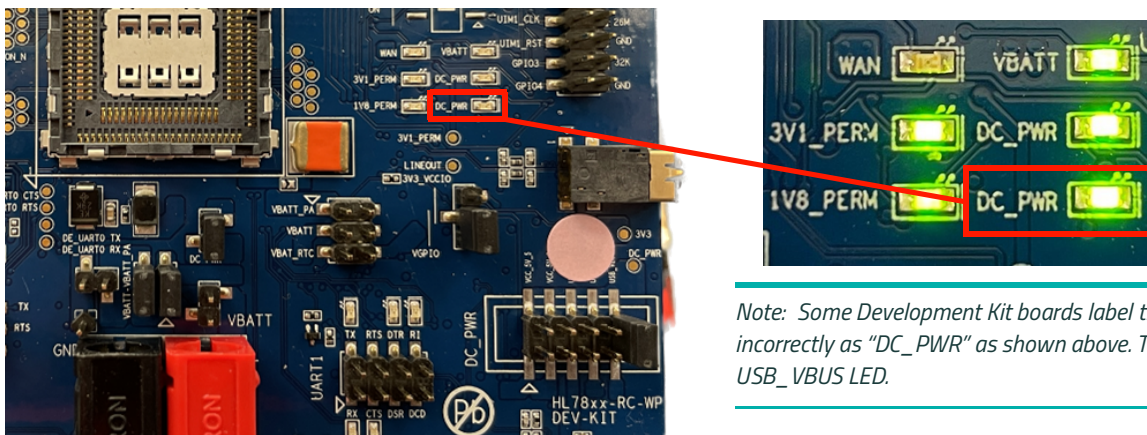

Figure 3-8: USB_VBUS LED
- The USB_VBUS green LED (D1005) indicates the USB_VBUS state. When the LED is lit, the USB cable is plugged into the USB connector and is available for use, as shown in Figure 3-8.